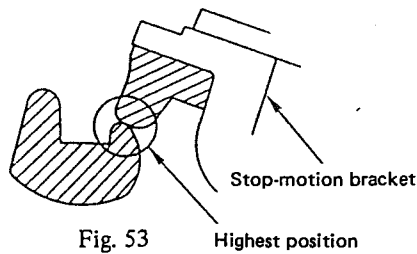

Fig. 53
<p>1. Depress the foot pedal at the stop-motion position of the sewing machine to make work clamp foot ① come down. At this time, adjust the clearance between work clamp foot mounting base ② and lifter lever ③ using adjustment screw ⑤ provided with lifter lever stopper ④.</p> <p>2. Then, bring the stop-motion bracket to its highest position as illustrated Fig. 53. Adjust so that a clearance of 0.5 mm is provided between lifter stopper suspension ⑦ mounted on cloth cutting knife arm ⑥ and lifter adjusting block ⑧. Temporarily tighten screw ⑨ in the block, and determine the position of the lifter adjusting block using adjustment screw ⑩. Once the block is correctly positioned, firmly tighten nut ⑪ and adjusting screw ⑨.</p> <p>* For the MBH-180L, the lifting amount of the work clamp foot is 2 mm when the clamp tail piece is in its front end.</p> 	<p>If the clearance between the lifter stopper suspension and the lifter adjusting block is smaller than 0.5 mm, the work clamp foot may fail to go up at the time of stop-motion. If the clearance is larger than 0.5 mm, lifting amount of the work</p>